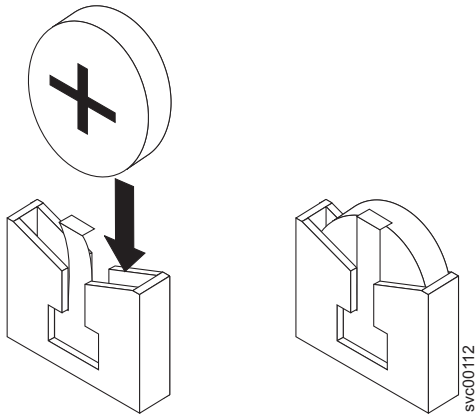

Figure 145. CMOS battery socket
- c. Slide the battery down until it snaps into place, as shown in Figure 145 on page 160.